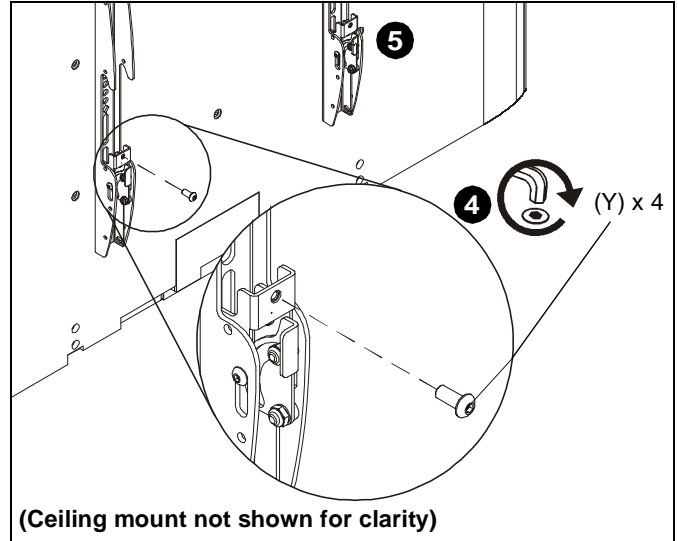

Figure 8
4. Fasten bracket against ceiling mount extrusion using one 10-24 x 5/8" button head cap screw (Y). (See Figure 8)